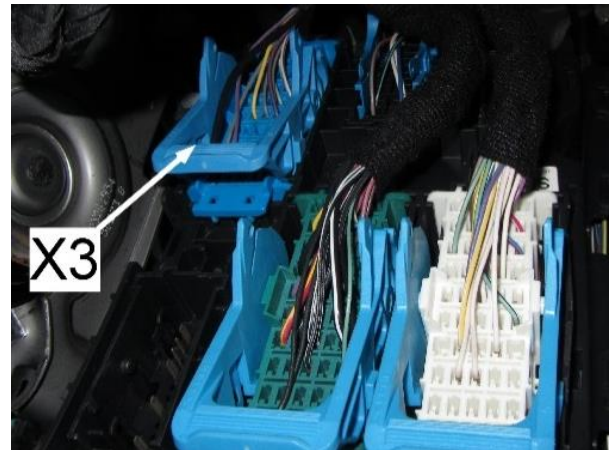

Figure 31: X3 Connector
13. Locate and remove the X3 connector. See Figure 31.